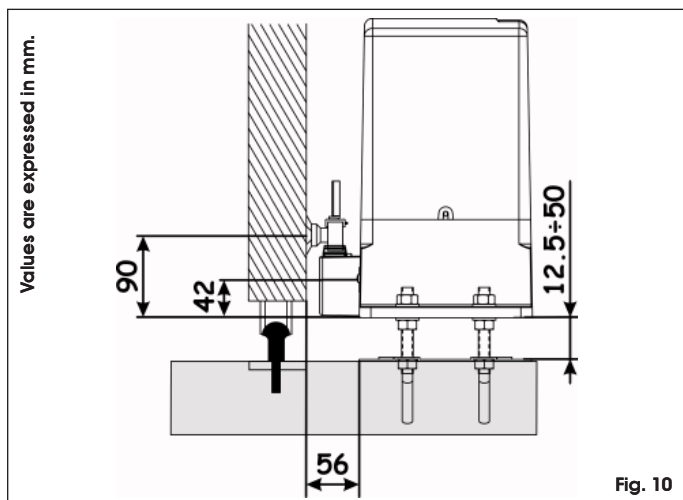

Fig. 10
- Adjust the height of the gearmotor and the distance from the gate, referring to dimensions in Fig. 10.